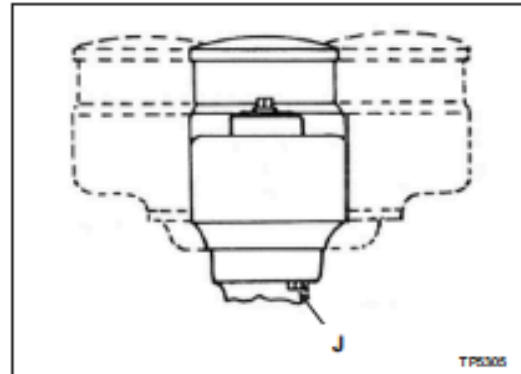

Figure 2.23 - Swivel Belt Housing
1. Loosen three locknuts "J", Figure 2.23.